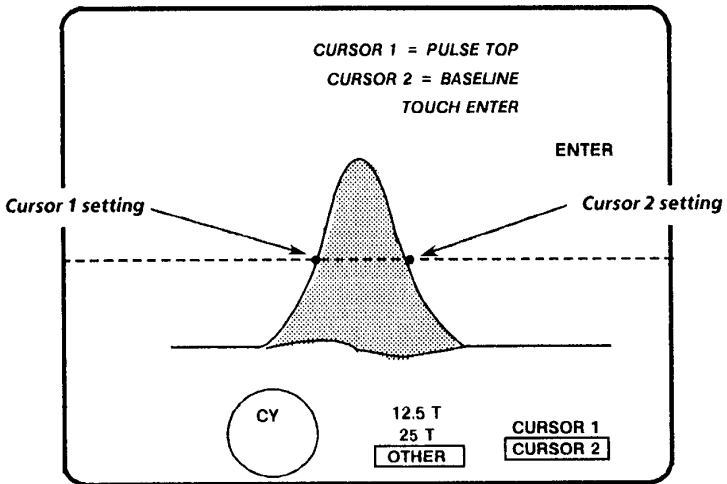

Figure 4-8: Setting Timing Cursors to Pulse Width
- d. Adjust Timing Cursor 2 to the point where the opposite side of the pulse signal intersects the Voltage Cursor. See Figure 4-8.